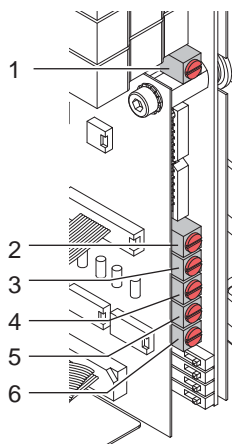
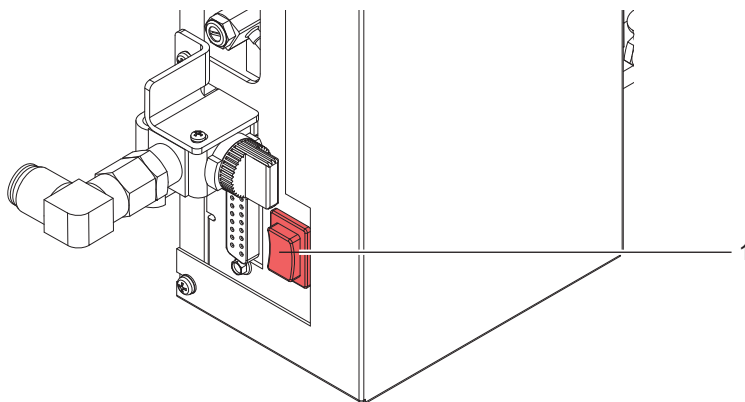

Figure 16
Figure 17 Pre-dispense key
After removing the cover (2) of the manifold, 6 potentiometers (Figure 17) as well as 4 DIP switches (Figure 16) become accessible by which the parameters can be set.